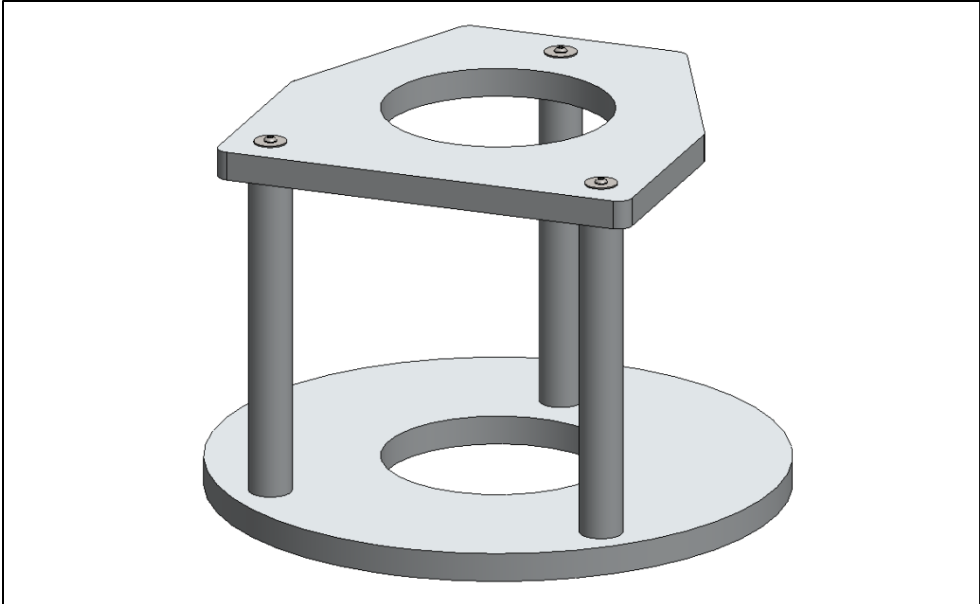

Figure 4.3 – 3 post design with difference shaped plates
- Plates can be different shapes if required (Fig. 4.3)
- 2 or 3 posts can be used instead of 4 (Figure 4.3)